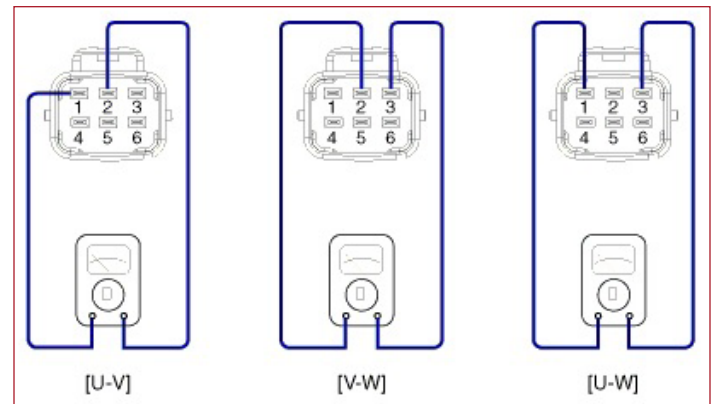

Fig. 2. Phase to Phase Resistance Test
- Phase-to-Phase resistance (see Fig. 2): This test checks the stator winding resistance phase-to-phase.